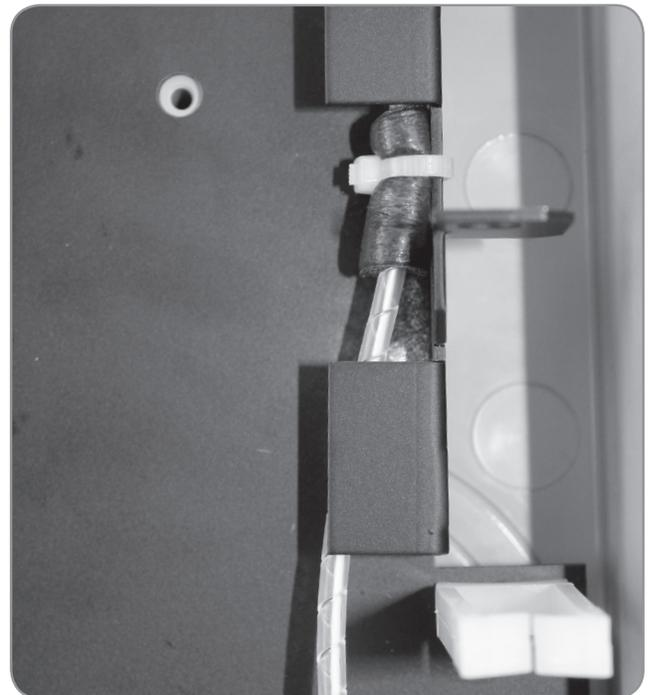

Figure 4
6. Secure the tubing to the splice tray using a tie wrap. (Figure 4)